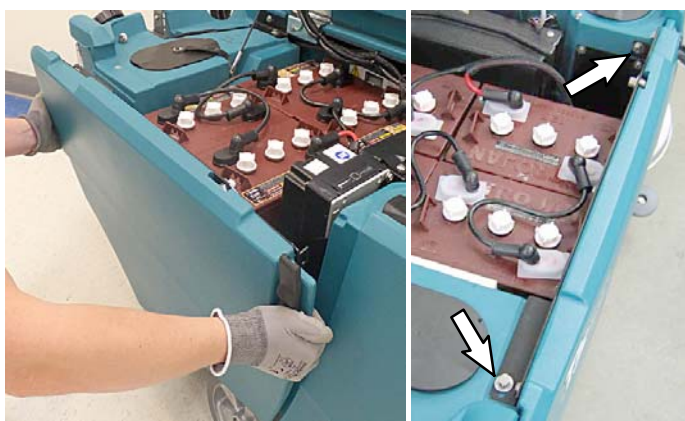

FIG. 34
20. Reinstall the right-side panel (FIG. 34).